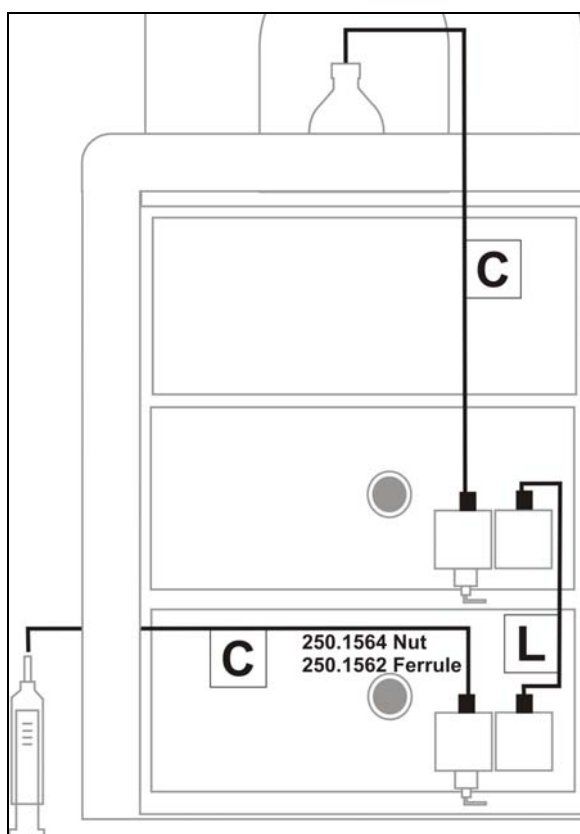

Figure 6. Assemblies C & L: Connection of piston wash of the two LC 100 pumps.
Place one tubing end in the bottle with wash solvent as depicted in figure 6. Connect the syringe (p/n 182.0408) supplied in the LC 100 ship kit to the other tubing. Install the interconnection tubing (L) and fill the piston wash with wash solvent by withdrawal of the syringe.